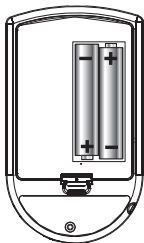

Figure 38
STEP 2: Remove the old batteries and replace with new ones. Be sure to align the batteries properly. See Figure 38.